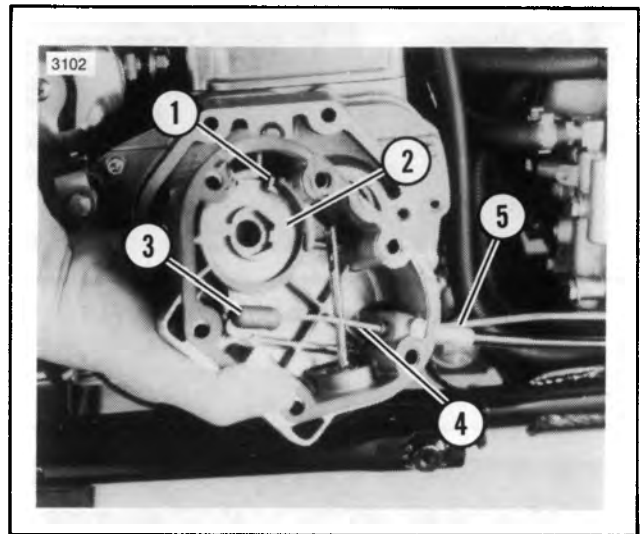

Figure 2-97. Clutch Cable Connection
5. See Figure 2-97. Note position of retaining ring opening. Retaining ring opening must be positioned in approximately the same location during assembly. Remove retaining ring (1).
6. Pull inner ramp (2) and coupling (3) out of side cover. Hold inner and outer ramps together to keep balls from falling free.
1. See Figure 2-97. Thread clutch cable fitting (5) into side cover. Do not tighten at this time.
2. Connect cable end (4) to coupling (3). Rotate ramps for best access and install coupling on inner ramp (2). Place ramp assembly in position in side cover.
3. Install retaining ring (1). Position retaining ring opening so it is located approximately over the outer ramp tang (the stop that prevents rotation).
5. Tighten clutch cable fitting (5) to 3-5 ft-lbs torque.